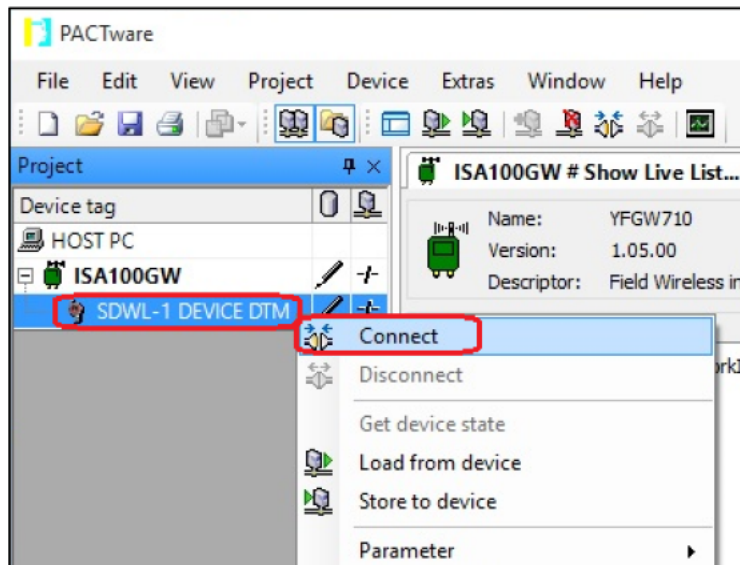

Figure 5-33 Connecting to SDWL-1
- ⑫ The SDWL-1 with the device tag edited is added to the tree menu on the left side of the main window. Right-click, then select “Connect” to connect to the SDWL-1. (Figure 5-33)